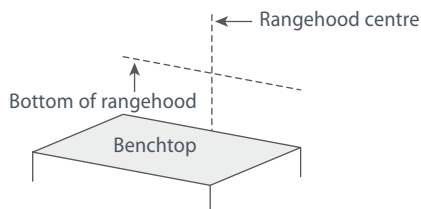

Fig.2 Marking the position of the rangehood on the wall
- 2 Mark the position of the rangehood on the wall. Using a spirit level, also mark a vertical line intersecting the horizontal line, (ensuring that the line can easily be erased or will be hidden after installation) showing the position where the centre of the rangehood will be. This is normally over the centre of the cooktop (fig.2).